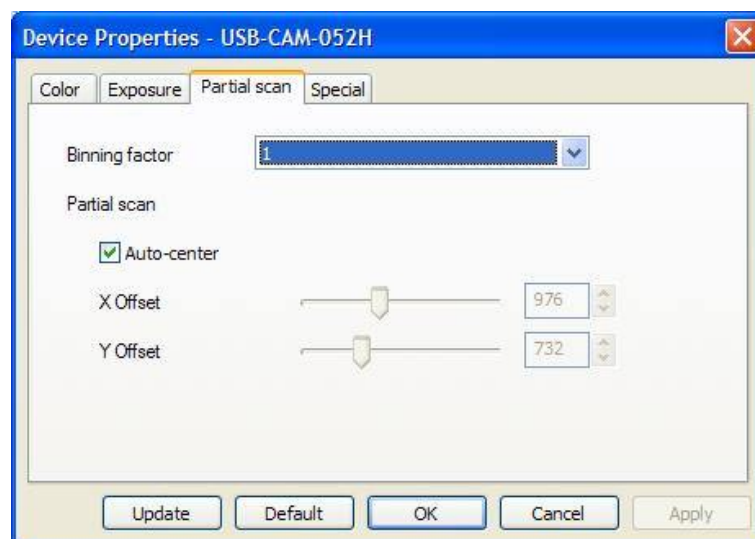

Figure 29: Further: Camera Settings „Partial Scan“
- Properties – Partial Scan (Figure 29)